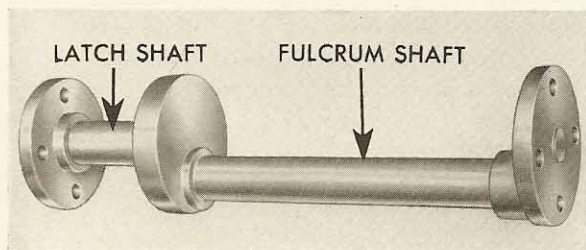

FIGURE 19-1
1. LATCH SHAFT — General: The latch shaft is made up of sections like the one shown in Figure 19-1. These are bolted together and supported on bearings, extending out from the centerframe. The latch shaft journals and the fulcrum journals are lubricated by oil sprayed from a small manifold that lies in the corner of the latch box. For this reason, it is important that the latches and bearings are thoroughly washed off each time the base is cleaned. The movement of the shaft and the latches is so slight that these parts seldom, if ever, require servicing. Keep all bolts and cap screws tight and properly secured.